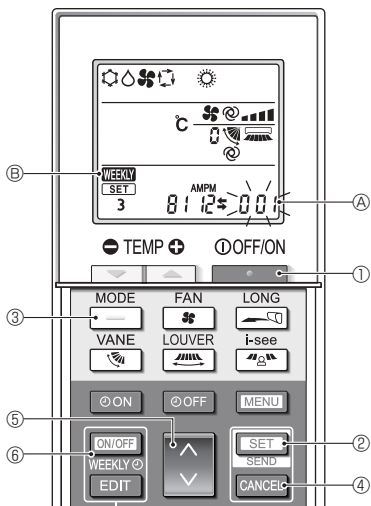

Fig. 4-12
#### 4.13.8. How to disable Auto mode operation (Fig. 4-12)
1. Press the **STOP** button ① to stop the air conditioner.
- If the weekly timer is enabled, press the **ON/OFF WEEKLY** button ⑥ to disable the timer. (**WEEKLY** ⑩ disappears.)  2. Press the **SET** button ② for 5 seconds.
- The unit enters the function setting mode. (The group model setting number ④ blinks.)  3. Press the **DOWN** button ⑤.
- Enter the group model setting number to "066". (The factory setting is "002".)  4. Completing the settings (Fig. 4-12)
- Press the **SET** button ② for 5 seconds.